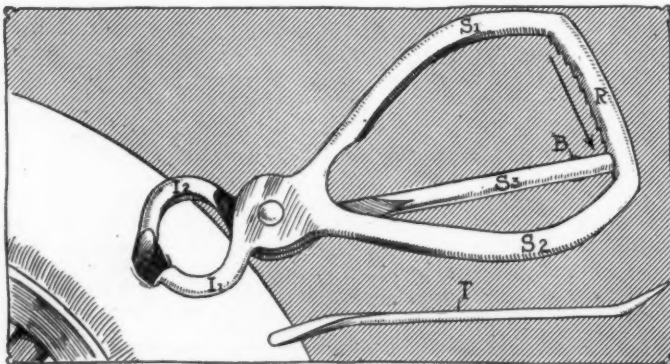

Fig. 2—Gilmer improved repair pliers and cleaning tool
G. Walker Gilmer, Jr., 51 North Seventh street, Philadelphia, Pa., has just brought out a new and improved type of his tire repair pliers which come in very handy in the making of speedy cures on tire casings. Since it is necessary for the efficacy of a cement repair on a casing, that the wound be absolutely clean before the cement is applied, lest the fabric rots, the pliers have been so designed that by their use the wound of the casing may be spread sufficiently wide to permit of thorough cleaning of it. The pliers consists of a triangular shank which carries at one end the jaw I1, Fig. 2, while pivoted to it is the shank S3 which
The subject matter of this patent is a tire valve, Fig. 2, comprising a valve stem S to the outside of which a valve casing C is coupled, the latter being provided with a valve seat S1. A valve V is normally forced against the seat by the air pressure inside the tube. To arrest the movement of the valve stem during inflation a perforated stop is the valve casing is provided; this stop is located some distance away from the valve seat, and a washer is in position between the stop and the end of the valve stem and compressed between them.